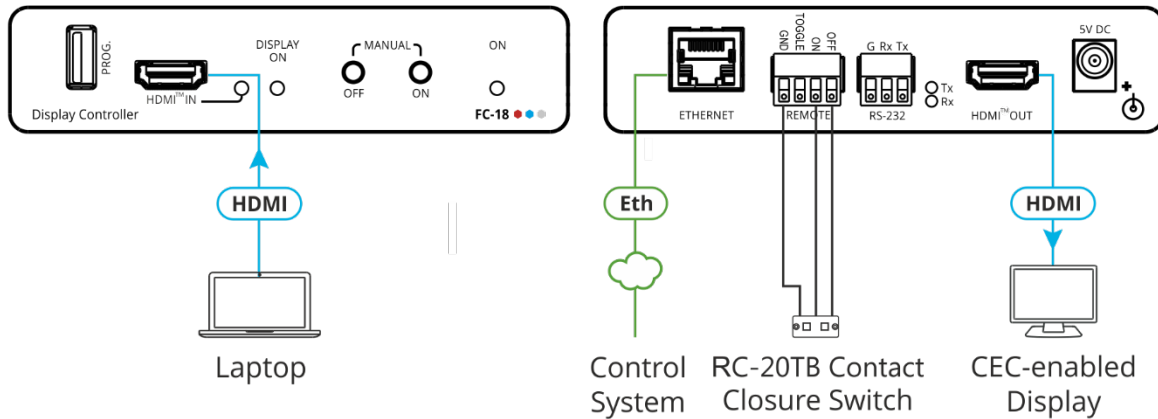

Figure 3: Connecting to FC-18
To connect the FC-18 as illustrated in the example in Figure 3:
1. Connect an HDMI source (for example, a laptop) to the HDMI™ IN connector (2) on the front panel.
2. Connect the HDMI™ OUT connector (12) to an HDMI acceptor (for example, a CEC-enabled display).
3. Connect the REMOTE 4-pin terminal block connector (9) to contact closure switches (for example, Kramer RC-20TB).
4. Connect the ETHERNET RJ-45 port (8) to the Ethernet to control the FC-18 or to tunnel RS-232 data to the display. Also use for firmware upgrade.
5. Connect the power adapter to the FC-18 and to the mains electricity (not shown in Figure 3).